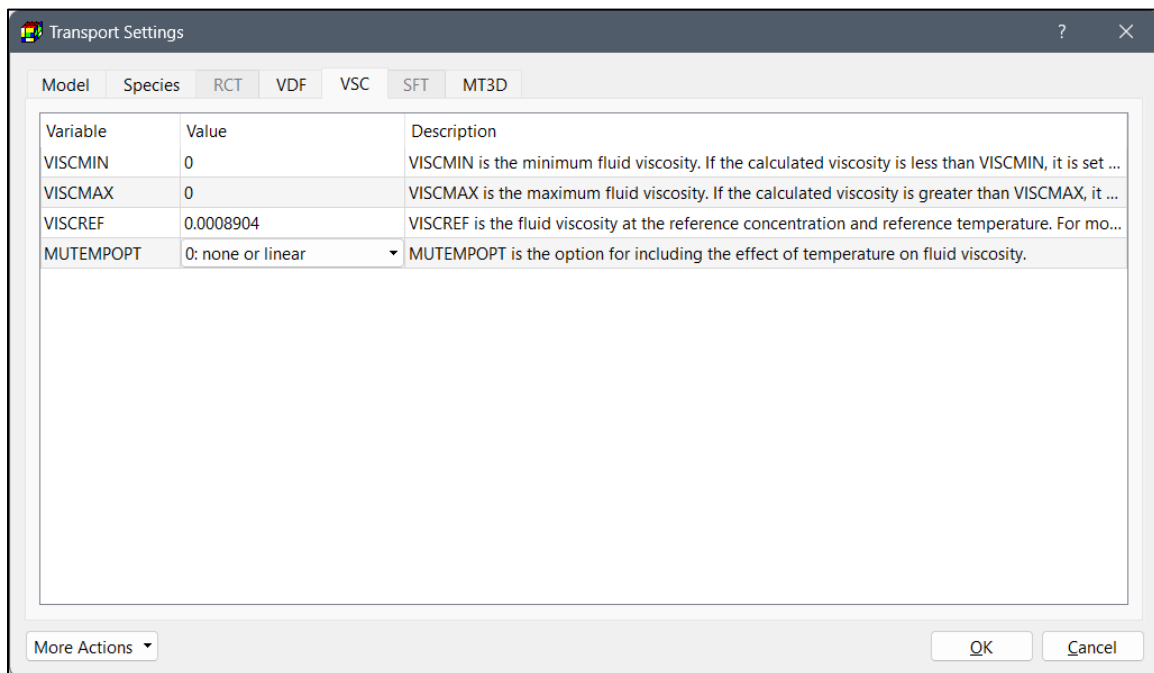

Figure 120. The VSC tab of the Transport Settings dialog box
6. VSC Tab (Figure 120) contains Options for the Viscosity Package of SEAWAT.